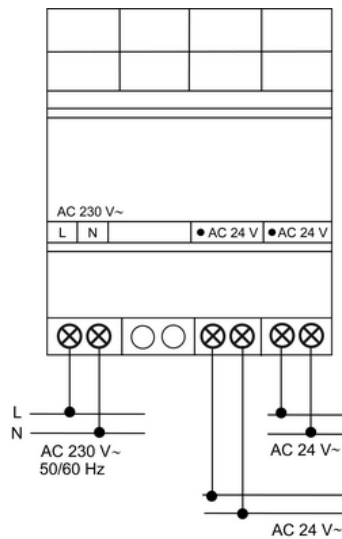

Figure 1
- Connect the device according to the connection diagram (Figure 1).